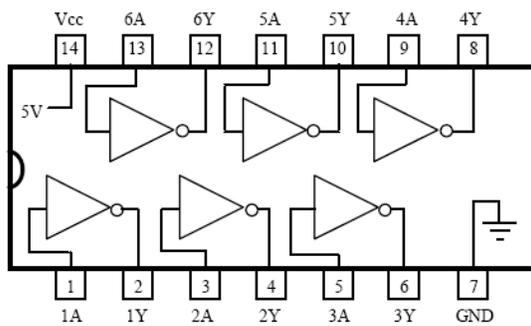

Fig 5.1 NOT gate (IC 7404)
1. Connect the NOT gate using digital IC's as shown in the figure 5.1.